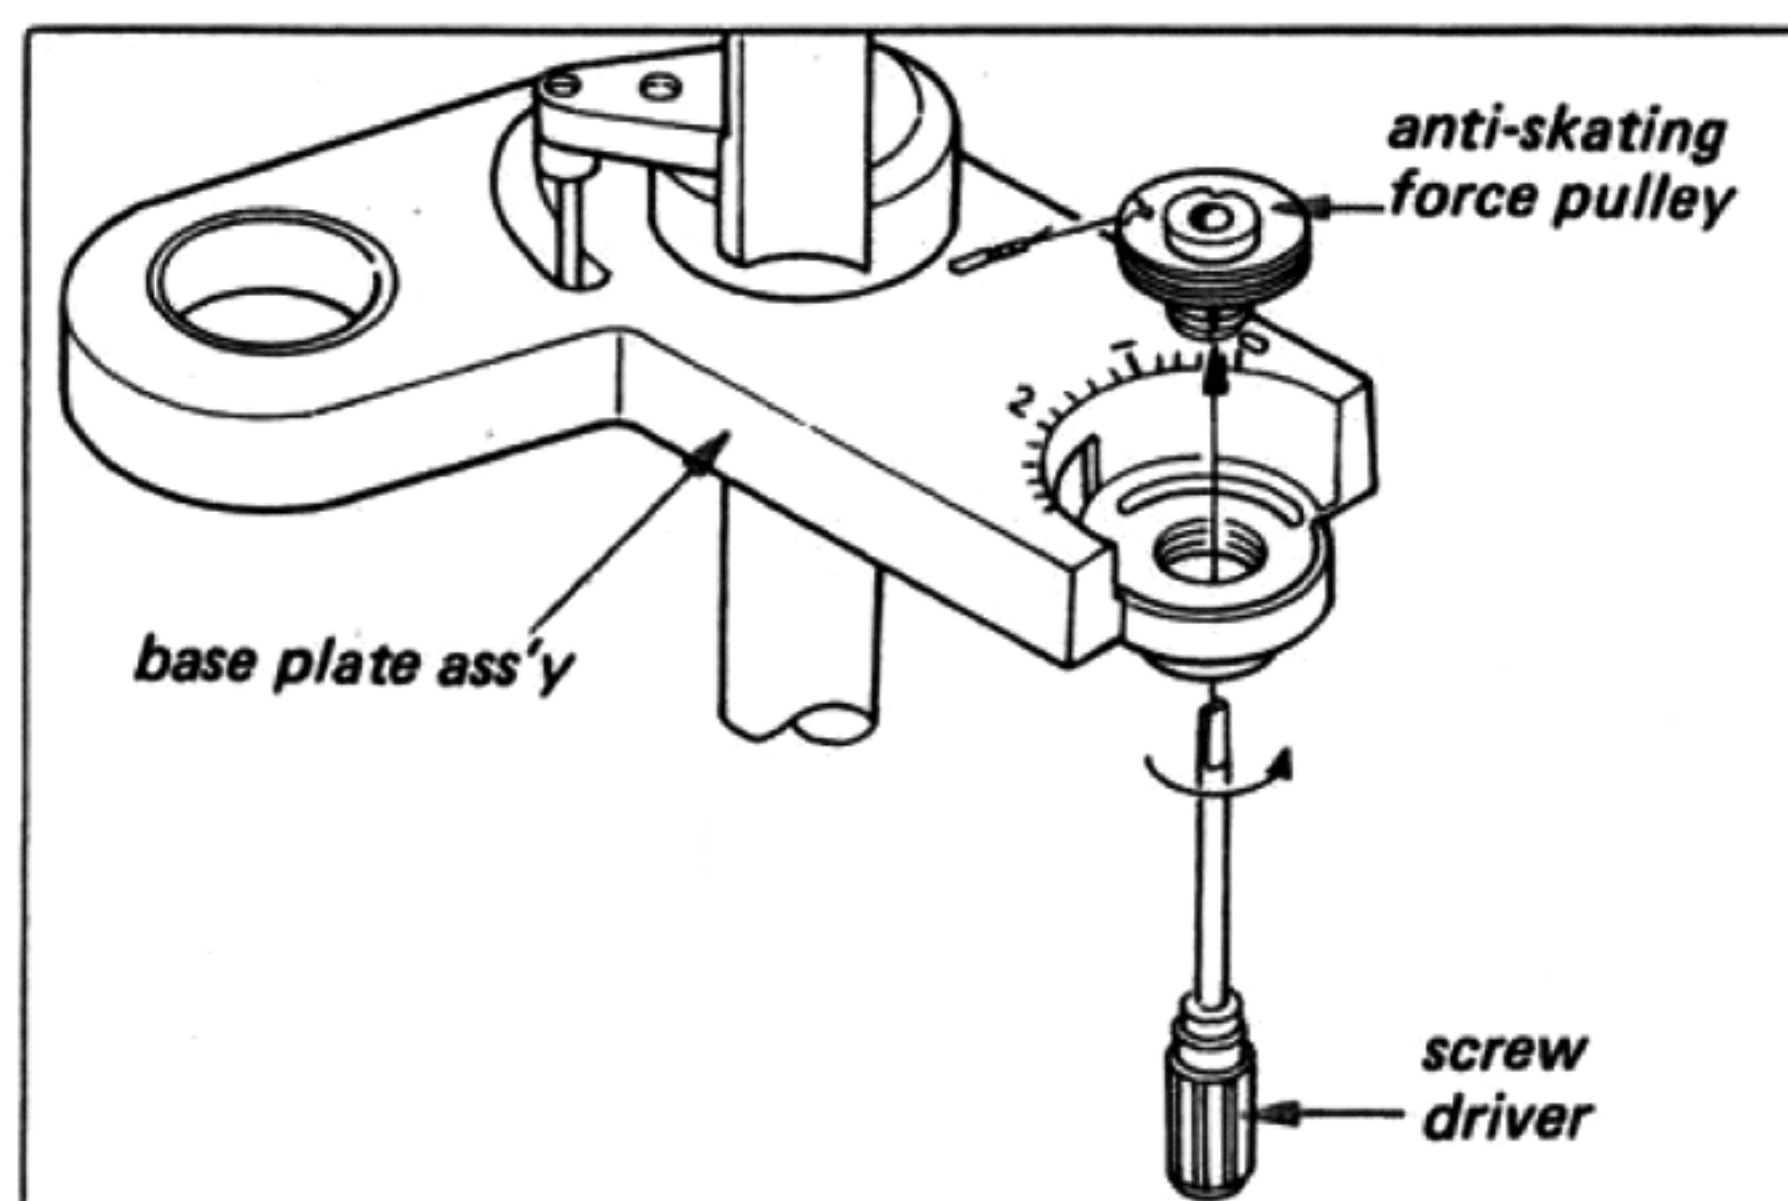

Fig. 2-17. Anti-skating force pulley removal
4. Remove the pulley by turning it counterclockwise from the bottom with a screw driver as shown in Fig. 2-17.